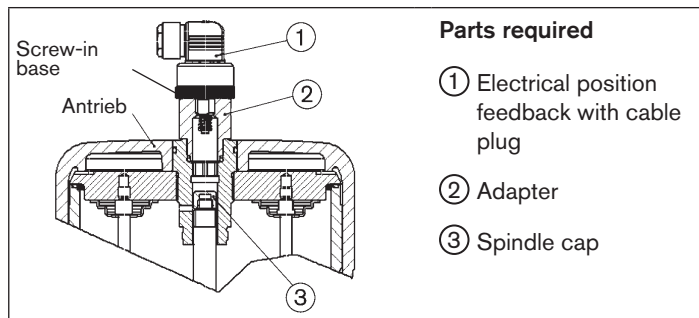

Fig. 12: Actuator size 175, 225 (Ø in mm) with electrical position feedback
- Screw spindle cap ③ of the position indicator onto the end of the spindle (size 14).
- Screw adapter ② instead of transparent cap onto actuator (see "Fig. 12").
- Screw electrical position feedback ① into adapter ②, following the note in Chapter "10", page 19.